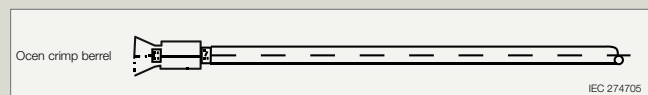

Fig. 2 - Wire crimped onto PIN
1. A metallic contact known as a PIN (fig. 4) made of tinned copper and formed using a moulding technique. It has two wings necessary to anchor it to the electric wire. This is done by crimping or mechanically, using matrix **IS3153-IS3154** in the relevant pliers **UMCT3149**, which, by bending the wings on the metallic core of the photovoltaic wire (figs. 2, 3), ensures correct and safe anchoring in accordance with **CEI EN 60352-2**. Perfect insulation of the metallic contact can be further guaranteed by placing caps **IS51400** and **IS52400**